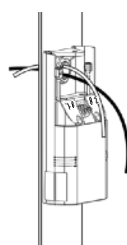

Fig 3
3. Route wires through knockout and into the mounting bracket. *Fig 3.*
3. Route wires through knockout and into the mounting bracket. *Fig 3.* Seat the hot wire into Terminal B of the EDG.